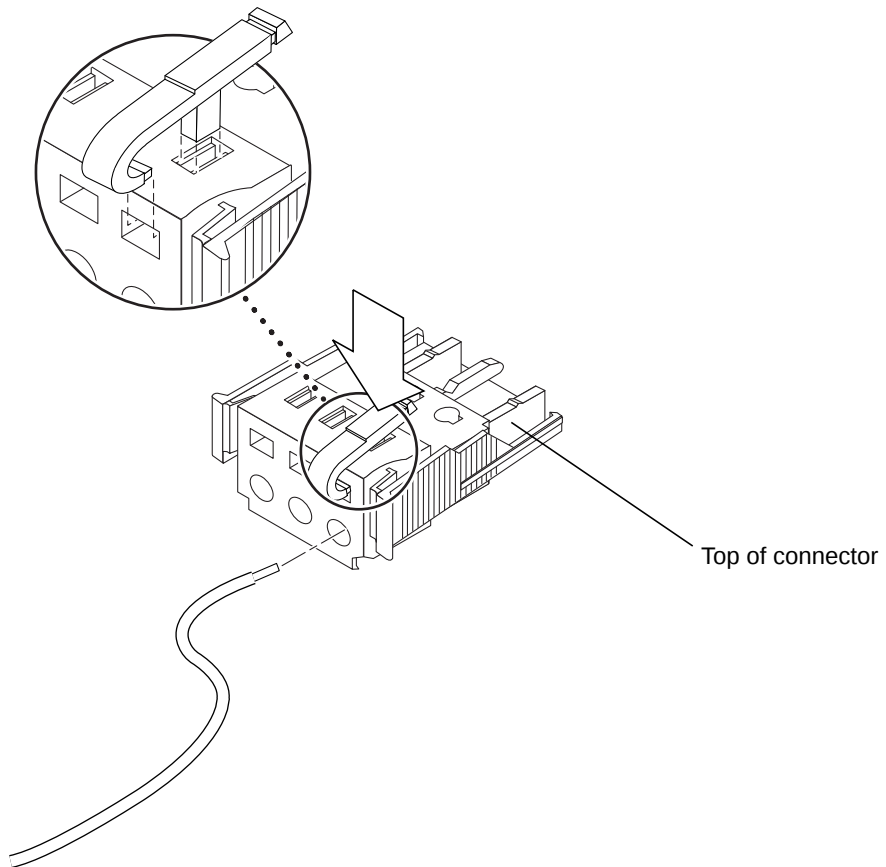
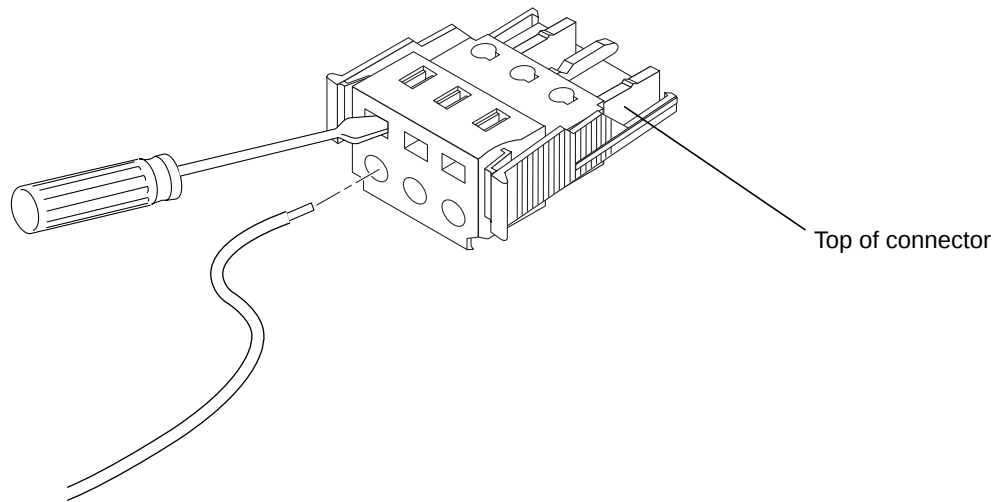

FIGURE 3-2 Opening the DC Connector Cage Clamp (Lever Method)
FIGURE 3-3 Opening the DC Connector Cage Clamp (Screwdriver Method)
6. **Insert the tip of the cage clamp operating lever into the rectangular hole directly above the hole in the DC connector where you want to insert the first wire and press down on the cage clamp operating lever (see FIGURE 3-2).**
You can also open the DC connector cage clamp by inserting a small slotted screwdriver into the rectangular hole directly above the hole in the DC connector where you want to insert the first wire, and pressing down on the screwdriver (see FIGURE 3-3).
If you need to remove a wire from the DC connector, insert the cage clamp operating lever or a small screwdriver into the slot directly above the wire and press down (FIGURE 3-2 and FIGURE 3-3).